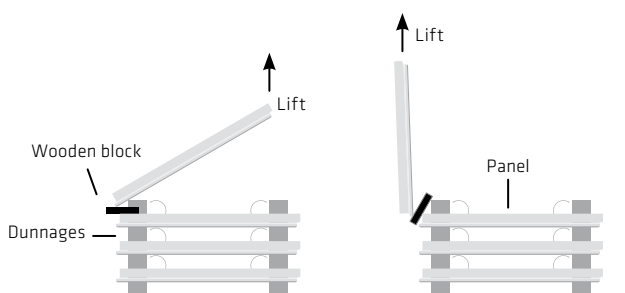

FIGURE 6: Suggested stacking and lifting procedures for ARES segmental panels.
- ▶ The dunnage shall be properly spaced to avoid uneven loading in the panel stacks. (Figure 6) **All dunnage is the property of Tensar or its precaster and should be stacked by the Contractor for loading on a subsequent panel delivery truck.**
- ▶ Remove the panels from the stack using proper lifting devices. Wood blocking must be placed under the bottom of the panel prior to lifting. (Figure 6 on pg. 6) The wood blocks protect the face of the panel being lifted from being scarred by the lower panel.